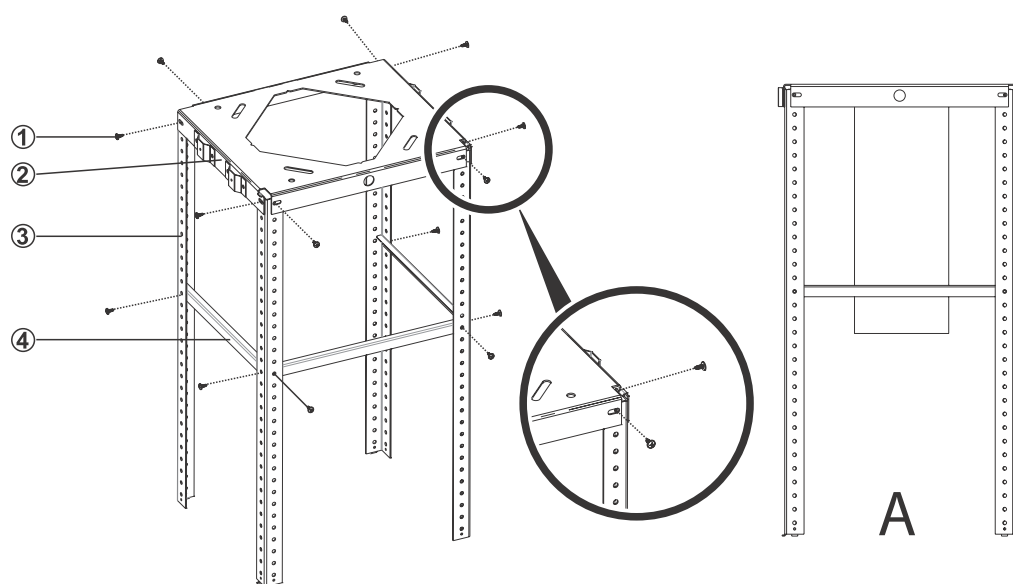

Fig. 11
1. ➔ Install product hanging bars (3) to ceiling hanging plate (2) with 8 pcs. 3.5 x 9.5 r phillips cylinder head screw (1) (Fig. 11).
2. ➔ Install product hanging bars to balance hanging bar balancing components (4) with 6 pcs. 3.5 x 9.5 rylb screw (1) (Fig. 11).
3. ➔ Make the air connections of the product (Fig. 11/A).